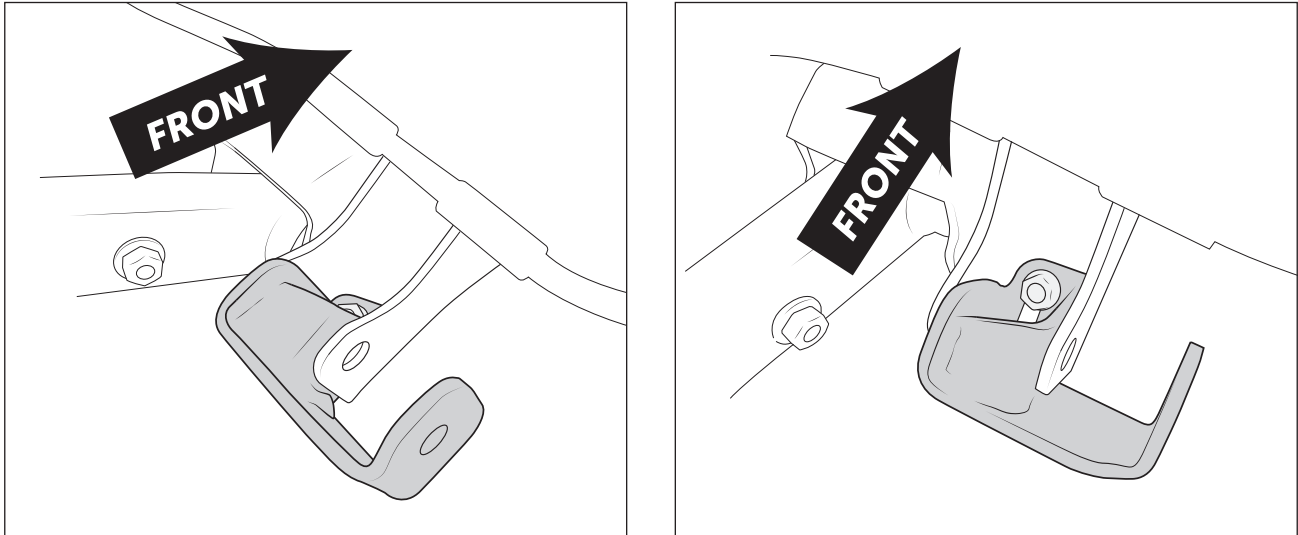

Figure 3
3. Once shock bushing can slip between AEV outboarding bracket and factory shock bracket with minimal interference, bolt the outboarding bracket in place by installing the provided M8x25mm bolt and washer through the bottom of the factory bracket and AEV outboarding bracket, then install flange nut onto the top side. Do not fully tighten at this time (fig. 3).